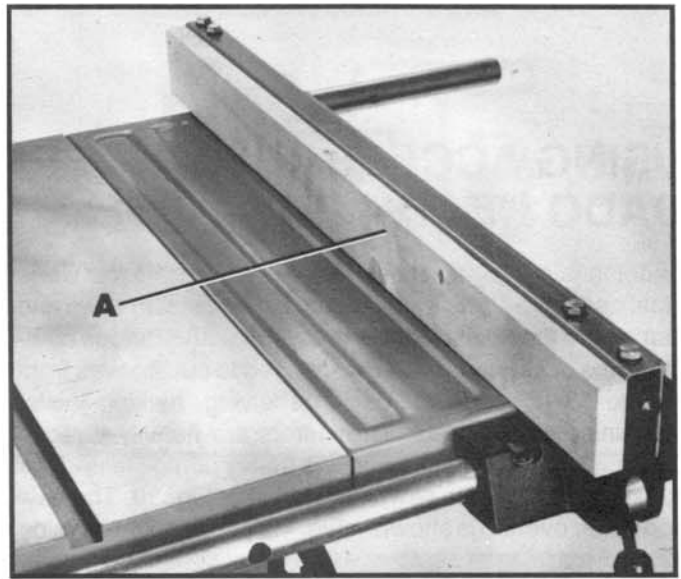

Fig. 43
It is necessary when performing special operations such as when using the moulding cutterhead to add wood facing (A) Fig. 43, to one or both sides of the rip fence, as shown. The wood facing is attached to the fence with wood screws through the holes provided in the fence. 3/4 inch stock is suitable for most work although an occasional job may require 1 inch facing.